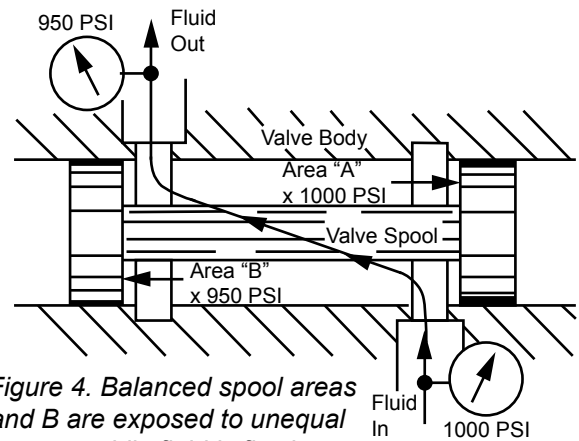

Figure 4. Balanced spool areas A and B are exposed to unequal pressures while fluid is flowing.
**Figure 4.** In this exaggerated cross section of a spool valve, internal fluid pressure is working against equal and opposite areas, "A" and "B," on the sides of the spool groove. As long as fluid is not flowing, both areas are exposed to equal pressure, and the spool remains in perfect pressure balance. But, when fluid starts flowing across the spool groove, there will be a pressure drop created by the flow. If there should be, for example, a 50 PSI drop created by the flow, then when 1000 PSI is present at the inlet port and working on spool Area "A," there will be 950 PSI at the outlet port and working on spool Area "B."